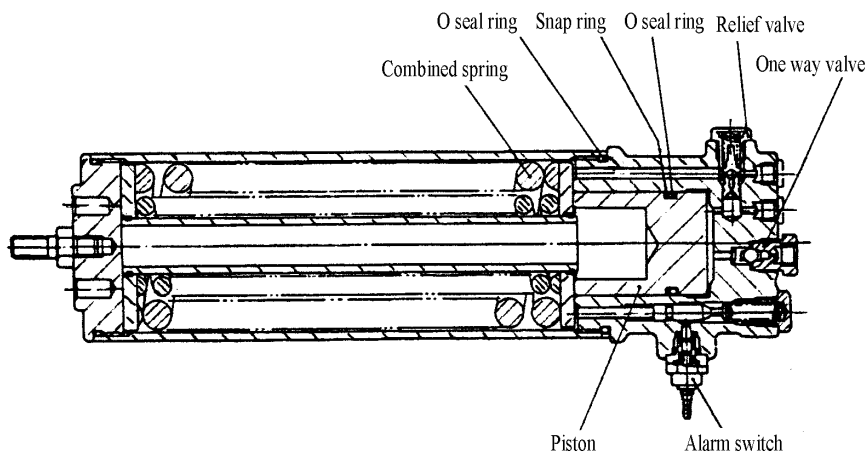

Fig. 4.4 Energy reservoir
4.2.3 Energy reservoir (Fig.4.4)